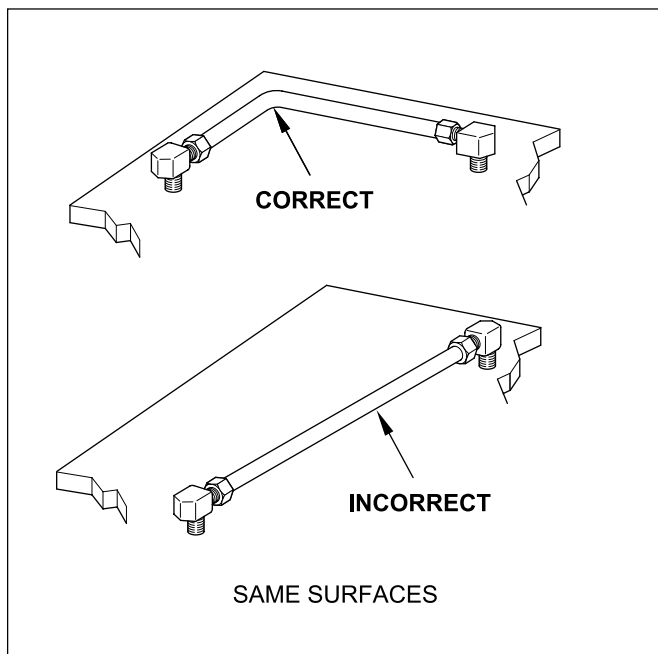

Figure 9
- Avoid straight short runs of tubing. These require a bend to facilitate removal and to allow it to compensate for the strains generated in a pressurized system. Figures 9, 10, and 11 illustrate some examples of suggested methods of bending tubing to conform to given conditions.